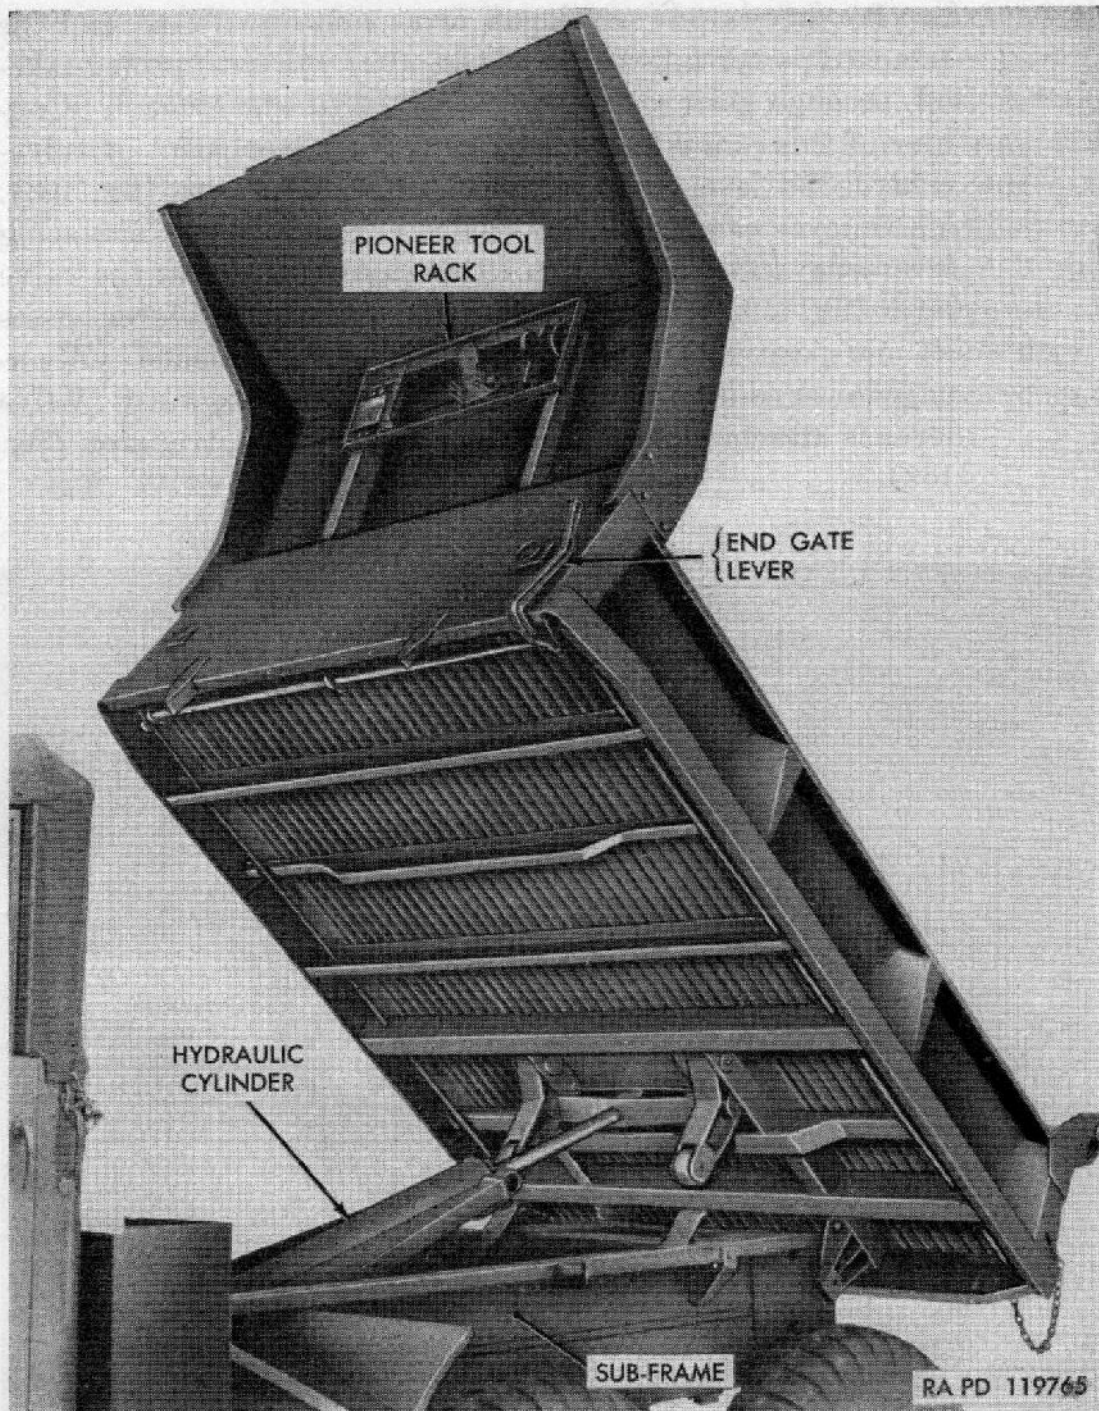

Figure 158. Dump body raised.
(1) *Cylinder* (fig. 158). A double acting hydraulic cylinder is mounted in forward part of subframe. Cylinder base is mounted on a shaft held in bearings on inner sides of subframe. Piston rod is connected to a crosshead which is pivoted in a roller arm at each end. Arms are supported by bearing pins on bottom of body. Free ends of arms are equipped with rollers which engage curved ramps attached to sides of subframe. Heavy high pressure hose connect cylinder ports to control valve.